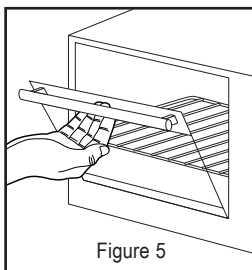

Figure 5
Step 2: Pull down the oven door carefully (see Figure 5).